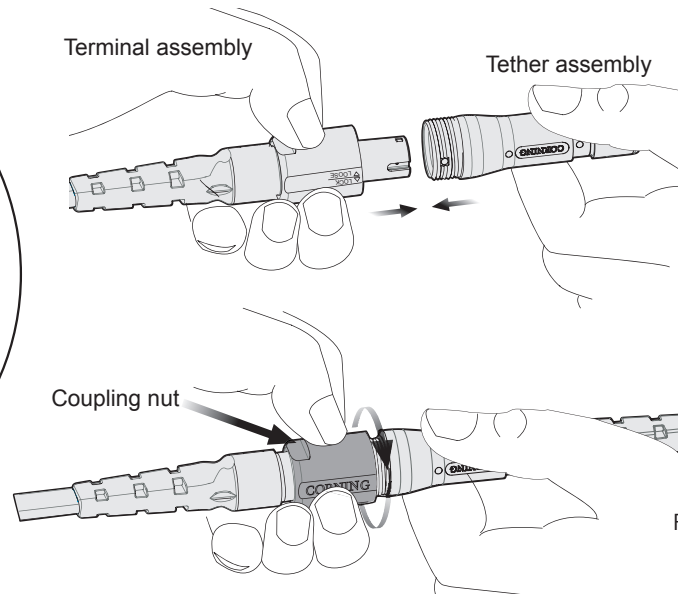

Figure 21
Step 4: Align the reference keys and gently turn the assembly coupling nut onto the tether assembly until the nut is hand tight (Figure 21).